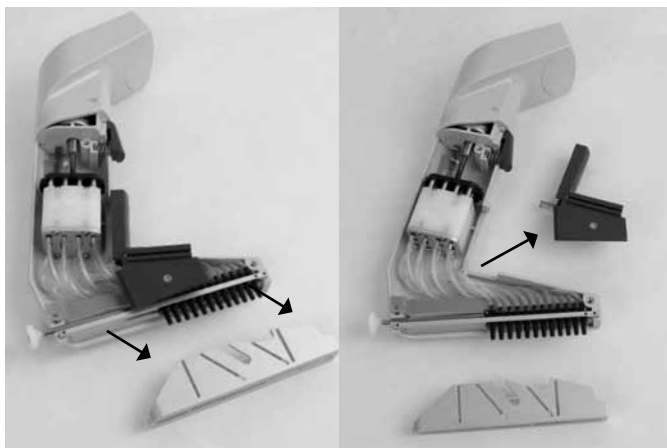

Figure F.1.1b: Removing Ejector Trigger and Ejector Comb
4. Remove the ejector comb by sliding it down and forward off the tip fittings (see *Figure F.1.1b*). Remove the plastic ejector trigger and spring. Next, remove the back plane divider.